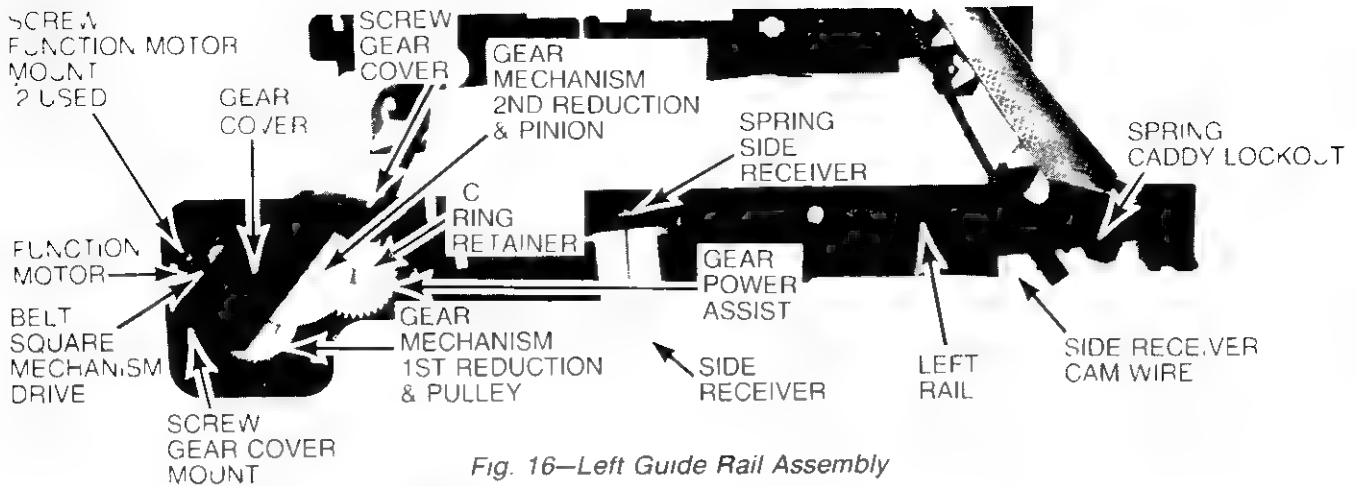
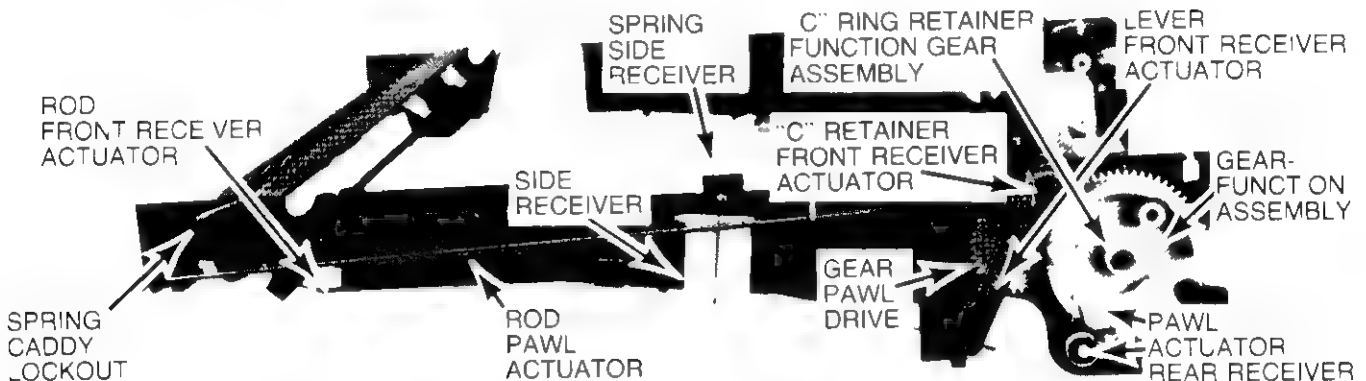

Fig. 16—Left Guide Rail Assembly
Fig. 17—Right Guide Rail Assembly
5. Remove receiver actuator rod (Fig. 17) from right rail assembly and side receiver wire cam (Fig. 16) from left rail.
6. Remove retaining ring holding pawl drive gear (Fig. 17) captive—remove pawl drive gear.
7. Remove retaining ring holding the power assist gear (Fig. 17) captive. Remove power assist gear.
8. Remove caddy lockout springs (Figs. 16 & 17) right and left sides. Remove caddy lockouts (Figs. 16 & 17).
- 1 With cabinet top, receiver spindle assembly and guide rail bracket removed use thumb to rotate mechanism drive 2nd reduction gear (Fig. 16) in clockwise direction to place mechanism in "PLAY" mode while holding AC switch (S2) actuator (Item 47, Fig. 47) back out of the way. Immediately stop rotating mechanism 2nd reduction gear when Disc Transfer Rod Coupler (Item 38, Fig. 47) activates "PLAY" Switch S7 (forwardmost switch mounted on plastic AC IN board mounting bracket beside mechanism function gear